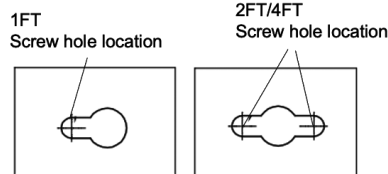
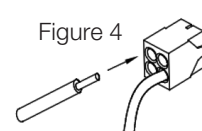
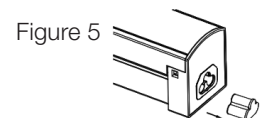
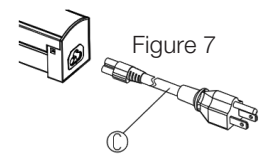

Figure 2
Figure 4
Figure 5
Figure 7
STEP 6: Position the housing assembly ① against the mounting surface and with a pencil, mark the screw hole locations to be located at the narrow section of the keyholes (see Figure 2).
STEP 10: Connect supply (house) wires to fixture wires, push stripped wires into appropriate push-in connector ⑥: white to white and black to black and green to green or bare copper ground wire (see Figure 4).
STEP 11: Bundle wires in tight grouping to be out of the way and reinstall LED cover assembly ②.
STEP 13: Once the first fixture is mounted, you can install the next fixture in the chain. On the end(s) of fixture to be connected, remove plug cover (see Figure 5). NOTE: Fixture orientation is important, make sure all of the linked fixtures are oriented the same way. The linking cord must connect to a keyed port on one fixture and a non-keyed port on the other fixture.
STEP 1: If using 5' power cable, determine location of your first fixture. Make sure the mounting location is within 5' of an electrical outlet. NOTE: The power cable should be attached to the end with standard port 5 only (see Figure 7).
STEP 2: Remove LED cover assembly ② by lifting upward on exposed edges of part. Start in the middle and work outward.
STEP 3: Select your preferred CCT by moving the switch ⑩ to either 2700K, 3000K, 3500K, 4000K or 5000K.
STEP 4: Position the housing assembly ① against the mounting surface and with a pencil, mark the screw hole locations to be located at the narrow section of the keyholes (see Figure 2).
STEP 7: Bundle wires in tight grouping to be out of the way and reinstall LED cover assembly ②.
STEP 9: Once the first fixture is mounted, you can install the next fixture in the chain. On the end(s) of fixture to be connected, remove plug cover (see Figure 5). NOTE: Fixture orientation is important, make sure all of the linked fixtures are oriented the same way. The linking cord must connect to a keyed port on one fixture and a non-keyed port on the other fixture.
ÉTAPE 1: Retirez l'ensemble du couvercle DEL ② en le soulevant vers le haut sur les bords exposés de la pièce. Commencez au milieu et continuez vers l'extérieur.
ÉTAPE 2: Choisissez votre température de couleur apparente préférée en plaçant l'interrupteur ⑩ à l'une des positions suivantes: 2700K, 3000K, 3500K, 4000K ou 5000K.
ÉTAPE 6: Placez l'ensemble du boîtier ① contre la surface de montage et avec un crayon, marquez les emplacements des trous de vis qui doivent être situés sur la partie étroite des trous de serrure (voir Figure 2).
ÉTAPE 10: Raccordez les fils d'alimentation (maison) aux fils du luminaire, poussez les fils dénudés dans le connecteur Push-in approprié ⑥: fil de terre blanc au blanc, noir au noir et vert au vert ou fil terre en cuivre nu (voir la Figure 4).
ÉTAPE 11: Regroupez les fils en groupe serré pour qu'ils soient hors du chemin et réinstallez l'ensemble du couvercle DEL ②.
ÉTAPE 13: Une fois que le premier luminaire est monté, vous pouvez installer le luminaire suivant dans la chaîne. Sur l'extrémité(s) du luminaire à brancher - enlevez le couvercle (voir la Figure 5). REMARQUE: L'orientation du luminaire est importante- assurez-vous que tous les luminaires reliés sont orientés de la même façon. Le câble de liaison doit se connecter à un port verrouillé sur un luminaire et un port non verrouillé sur l'autre luminaire.
ÉTAPE 1: Si vous utilisez un câble d'alimentation de 1,5 m (5 pi), déterminez l'emplacement de votre premier luminaire. Assurez-vous que l'emplacement de montage est à moins de 1,5 m (5 pi) d'une prise de courant. REMARQUE: Le câble d'alimentation doit être fixé à l'extrémité avec un port standard 5 seulement (voir la Figure 7).
ÉTAPE 2: Retirez l'ensemble du couvercle DEL ② en le soulevant vers le haut sur les bords exposés de la pièce. Commencez au milieu et continuez vers l'extérieur.
ÉTAPE 3: Choisissez votre température de couleur apparente préférée en plaçant l'interrupteur ⑩ à l'une des positions suivantes: 2700K, 3000K, 3500K, 4000K ou 5000K.